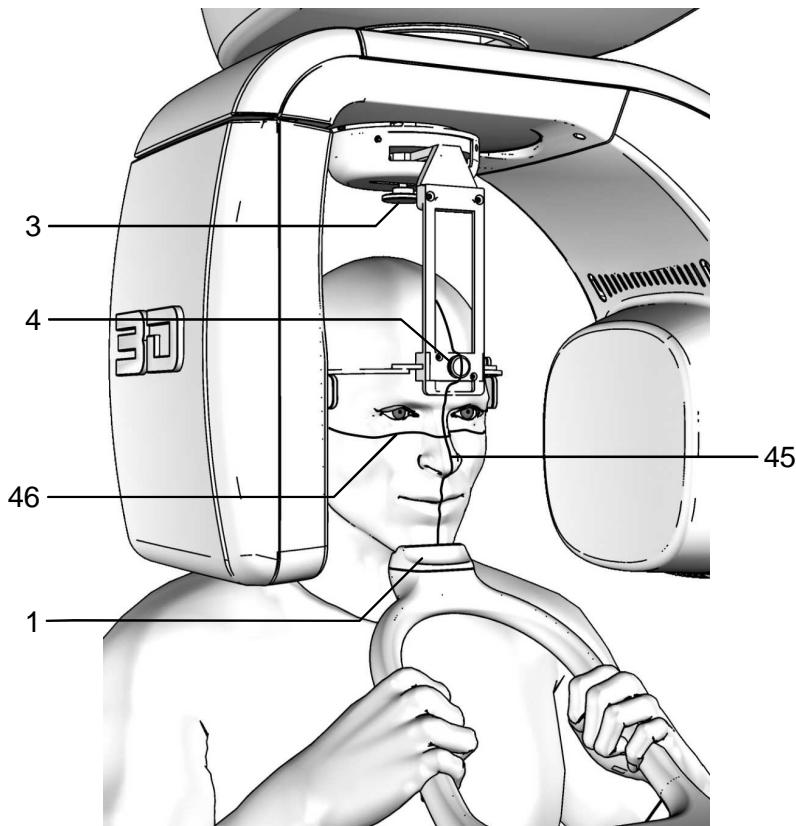

Figure 24 - SINUS positioning
4. Verify that the temple clamp device is in the central position (Figure 14), and if necessary move it using the appropriate control on the top of the support (3 - Figure 24).
5. Place the patient in the temple clamp (Figure 24) by placing the chin on the surface of the relevant support; the hands should rest on the front handgrips. Ensure that the patient rests his chin on the chin support for SINUS.
8. Press the key "Centring devices ON" (14) .
9. Place the temple clamp in contact with the patient's head by means of the appropriate knob (4 - Figure 24).
11. Press the key "Patient Entrance" (6)  to confirm the